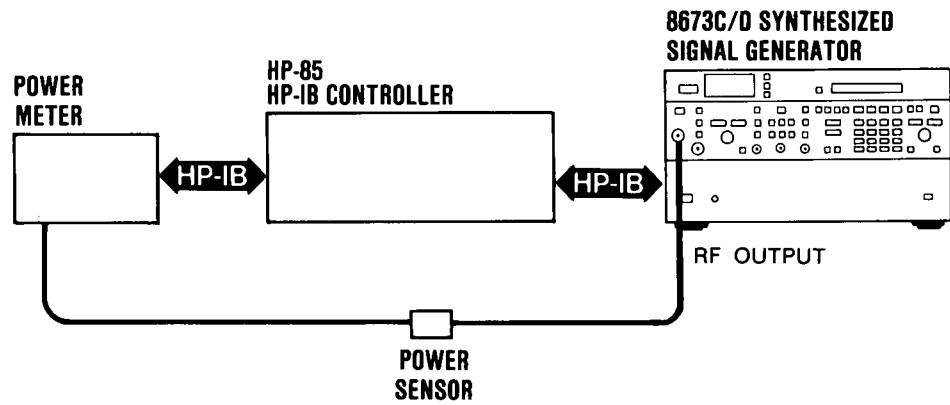

Figure 5-33. Low Band Clamp Adjustment Test Setup
1. Connect equipment as shown in Figure 5-33.